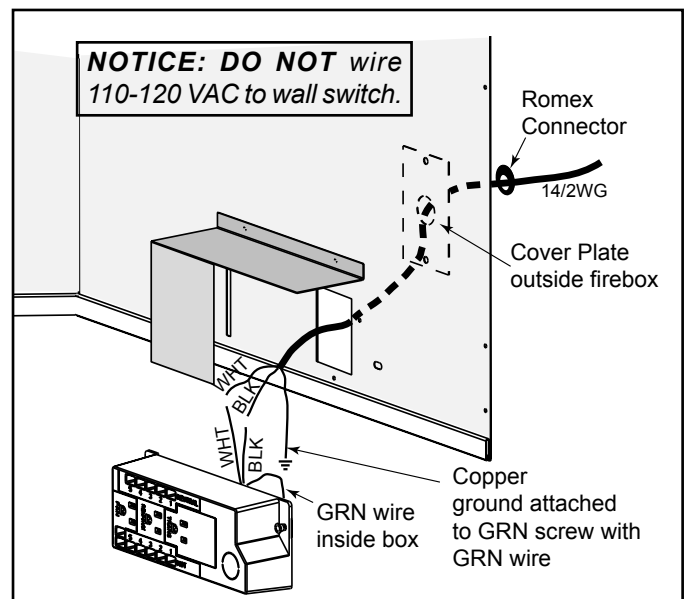

Figure 8.1 Junction Box Detail
- Remove the cover plate located on the outer shell - right side (see Figure 8.1).
- Remove the screw attaching the junction box/receptacle to the outer shell, rotate the junction box inward to disengage it from the outer shell (see Figure 8.1).
- Pull the electrical wires from outside the appliance through the opening into the valve compartment and secure wires with a Romex connector. See Figure 8.1.